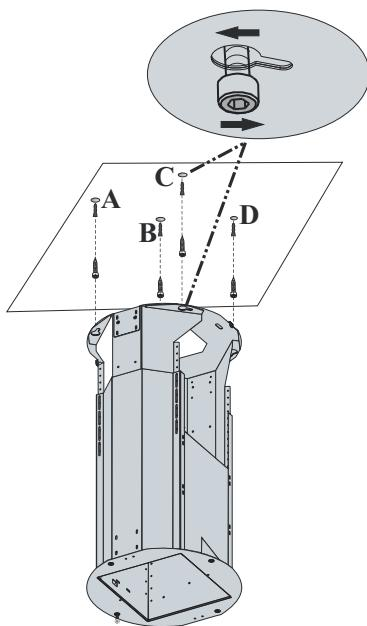

Fig. 14
- Hammer the Ø10 mm plastic dowels into the holes you drilled for product installation (Fig. 14).
- Screw the 5.5 x 60 ysb screws into the plastic dowels you have hammered in earlier in such a way as to remain 5mm space between the screw head and the wall (Fig. 14).
- Slide the holes on the motor block that resemble key-holes onto the 5.5x60 ysb screws that you have screwed onto the wall and rotate the motor block clockwise (Fig. 14).
- After fitting the screw channels on the motor block onto the installation screws, tighten the screws and fix the motor block (Fig. 14).